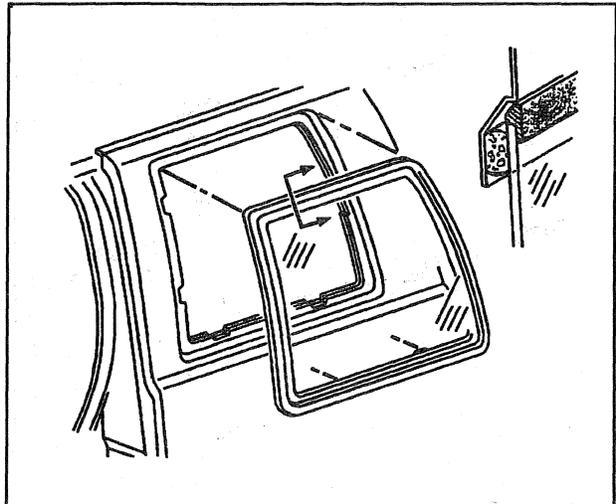

Figure 12—Primer and Adhesive Application Points
### Install or Connect (Figures 12, 13, and 14)
2. Clear primer to the window covering an area of 18 mm (3/4 inch) from the edge of the glass (figures 12 and 13).